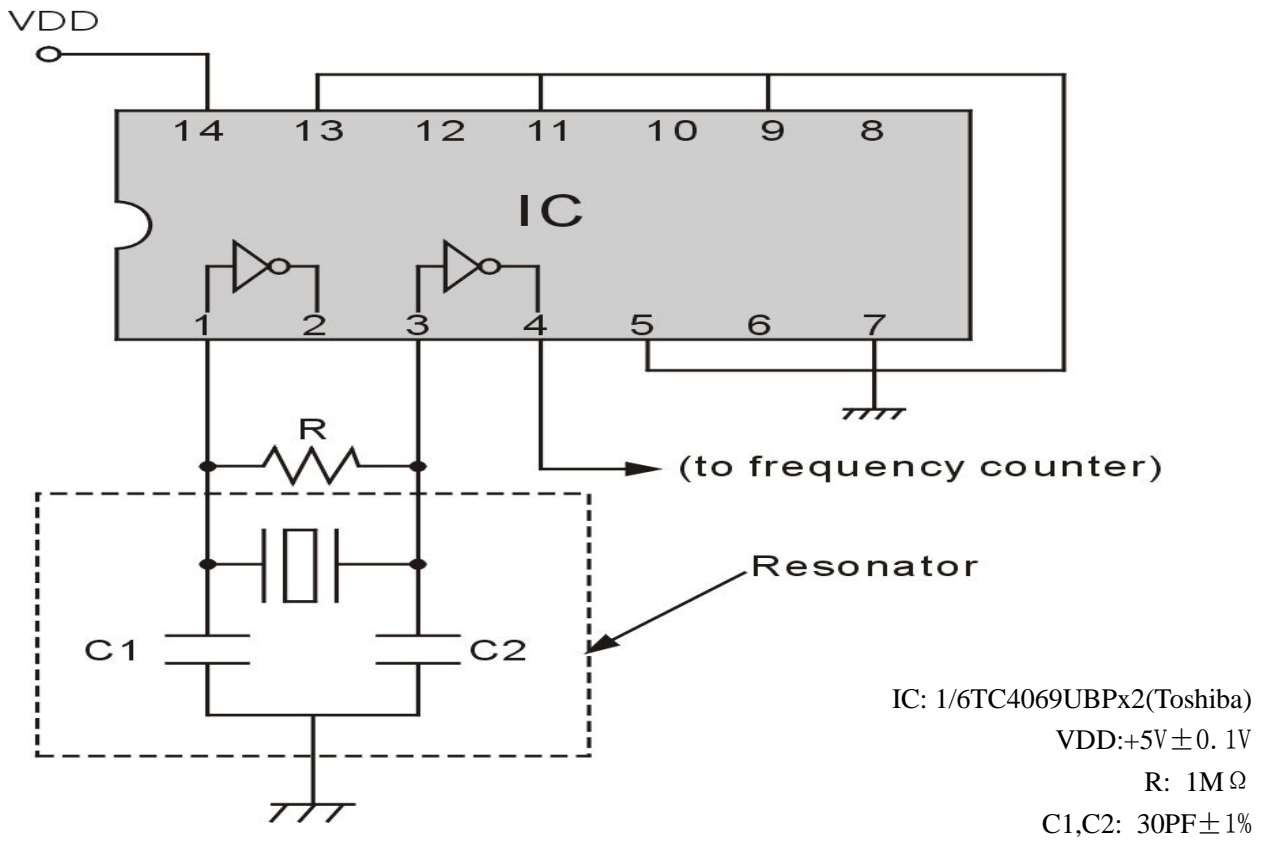

Figure 1. Test Circuit for Oscillating Frequency
The MHZ ceramic resonator must meet the following performance when tested in the circuit indicated in figure 1 and figure 2.
- 7-4. Irregular or stop oscillation may occur under unmatched circuit conditions. And it shall be noted that oscillating frequencies of the ceramics Resonator may drift depending on IC applied (the type names, the manufacturer) and capacitance of external capacitors (C1,C2) and the circuit design in figure 1.